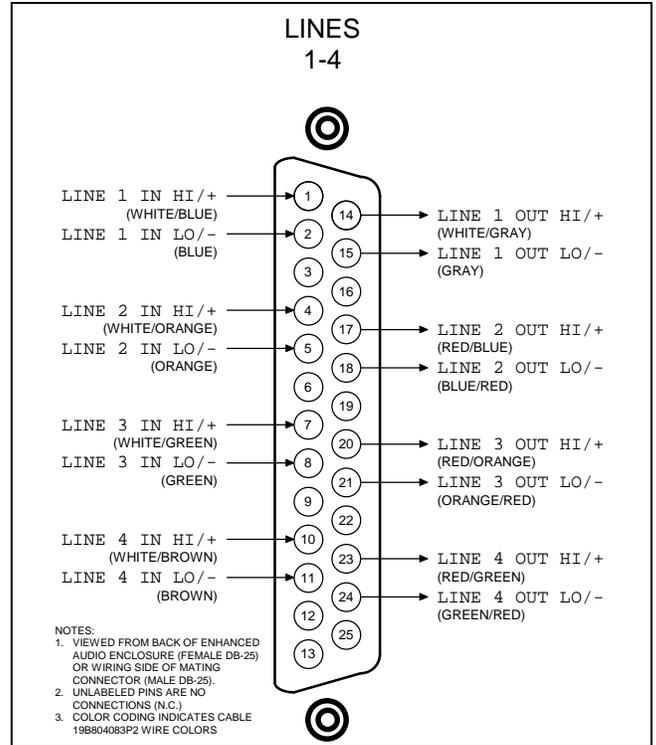

Figure 5 – Audio Line Input And Output Connections At Enhanced Audio Enclosure
At the C3 Maestro, audio connections terminate at the DB-25 connector on the Enhanced Audio Enclosure's rear panel. This connector is labeled "LINES 1-4". Its pin-out is shown in Figures 5 and 6A and Table 12. It has female contacts; therefore, the required mating connector is a male DB-25.
- If cable 19B804083P2 is used, mate its DB-25 to the Enhanced Audio Enclosure, route it to the CEC/IMC, shorten it as required, and punch the wires to the correct punch block's terminals. Wire color coding is indicated in Figure 5 and in the cable's assembly diagram shown at the end of this manual (page 37). Refer to the CEC/IMC customer-specific system documentation print-outs for CEC/IMC Audio Concentrator Card pin-outs which map over to the punch blocks via Telco cables.
- If cable 19B804083P2 is not used, fabricate an equivalent cable, less unnecessary pairs, to interconnect the required pairs between the Enhanced Audio Enclosure's "LINES 1-4" DB-25 connector and the appropriate CEC/IMC Audio Concentrator Card's pins or CEC/IMC punch block's terminals. Shielded cabling is recommended. See Figures 5 and 6 and Tables 5 and 12 for details.